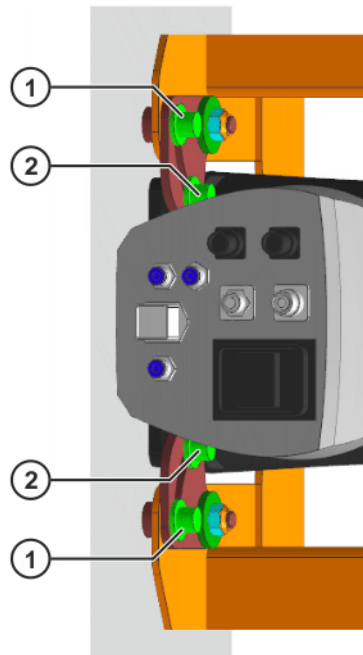

Fig. 8-7: Removing the top screws
13. Unscrew 2 M12x30 Allen screws (top Allen screws) and washers from the top of the base frame (>>> Fig. 8-7).